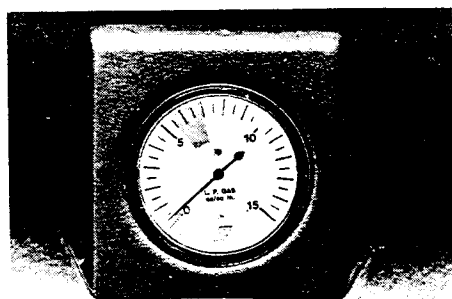

FIGURE 18 — MANOMETER GAUGE
3. Monitor the manometer gauge for a minimum of 30 minutes, there should be no drop in pressure (see Figure 18).